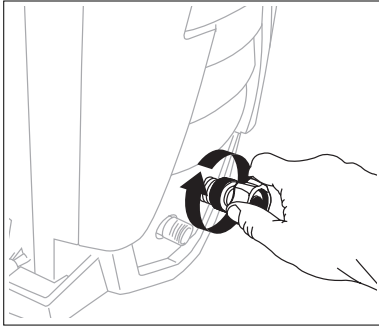

Fig. 13
- Attach collar of garden hose adapter directly to power washer inlet. Hand tighten (Fig. 13).